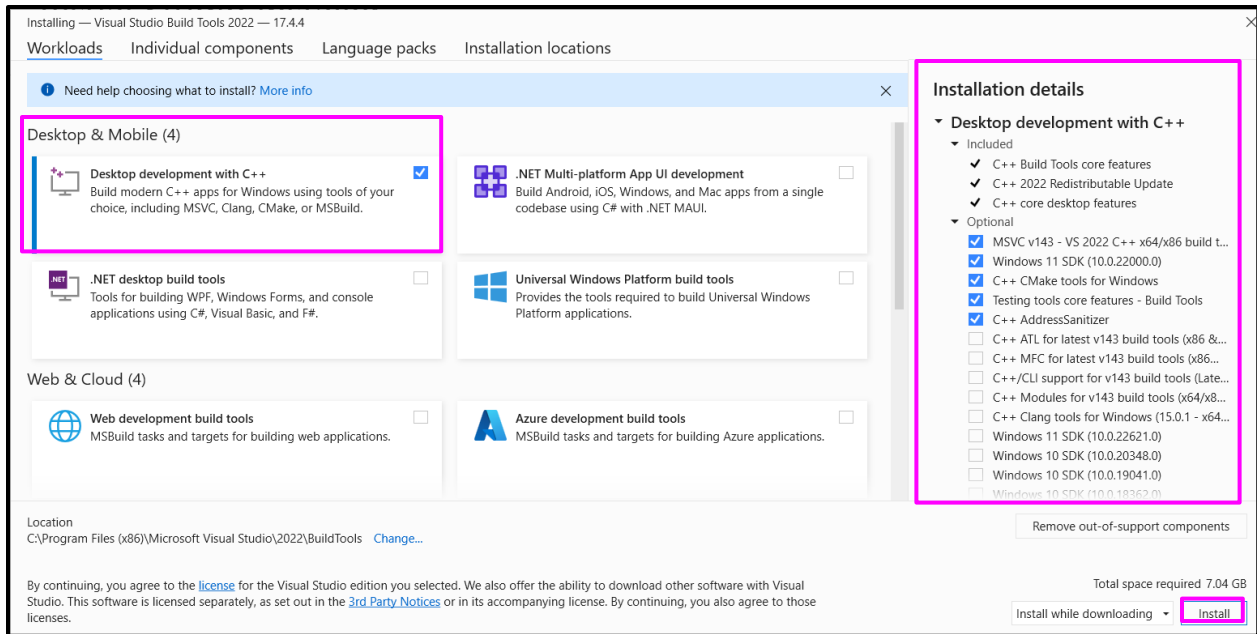

Figure 118. Ensure the options in the pink boxes are checked before clicking `install`.
- Launch the installer, and then select Desktop development with C++ and then select the options as shown in Figure 118. Click Install.